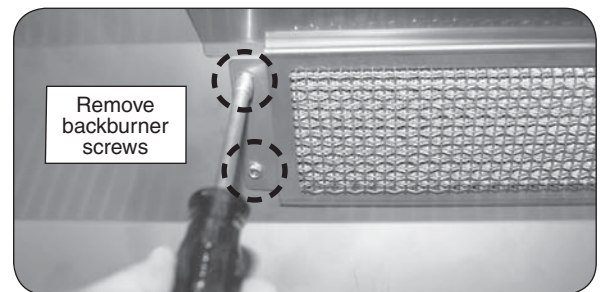

Fig. 29-3 Remove backburner mounting screws
2. Remove the backburner mounting screws (1/4" hex) located at the left end of the backburner assembly (see Fig. 29-3).